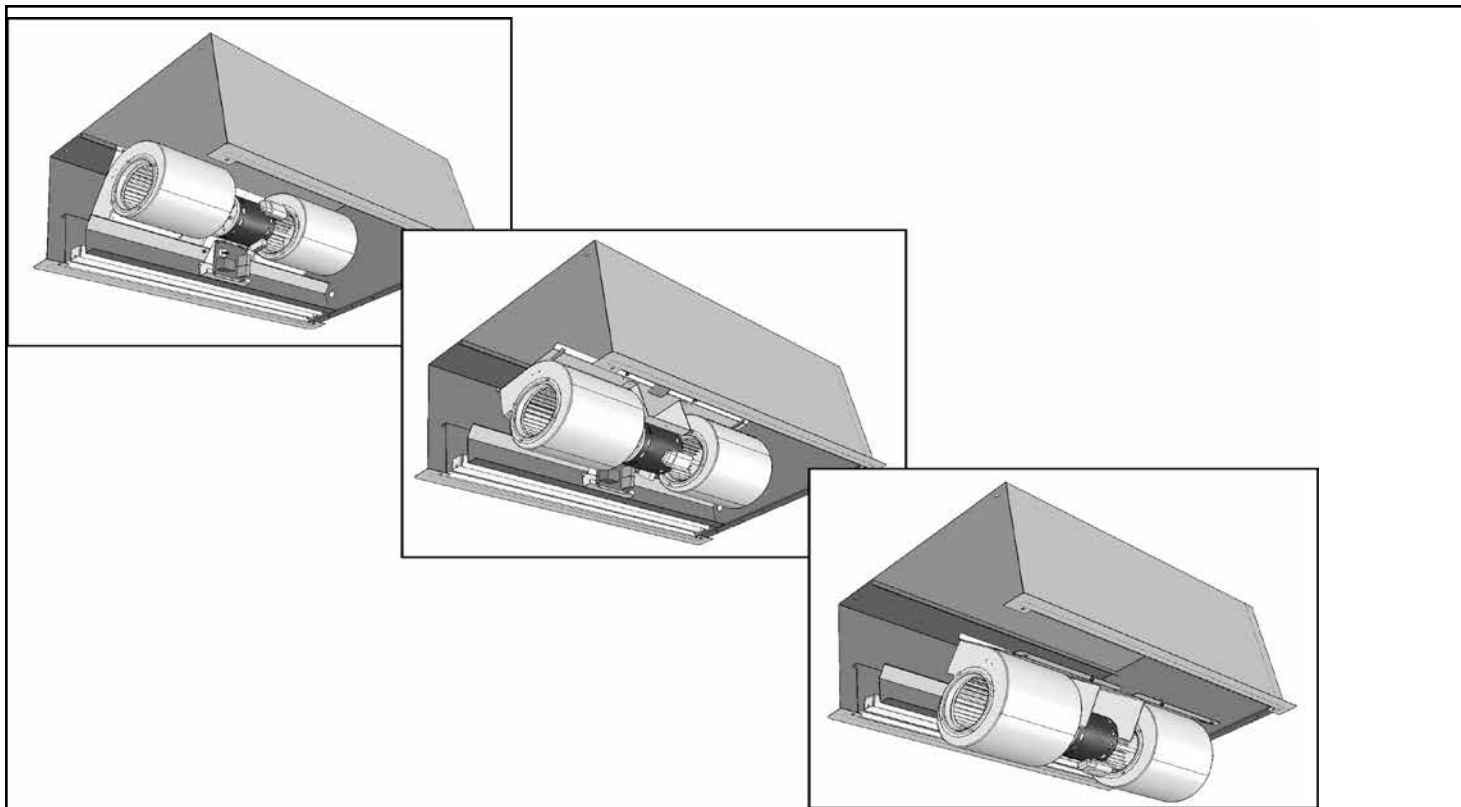

Figure 9
7. Wearing protective gloves, hold the module by the motor, and rotate the module top forward and drop it down through the bottom of the unit. **See Figure 9.**
9. Next, remove the two blower housings by removing the (8) screws that attach the fan housings to the blower plate. When the fan housings are free, slide them and their fan wheels off to each side.